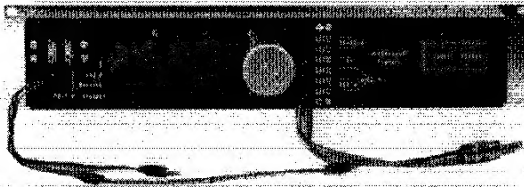

FIGURE 2.
1. Make output cable as shown in Figure 2.